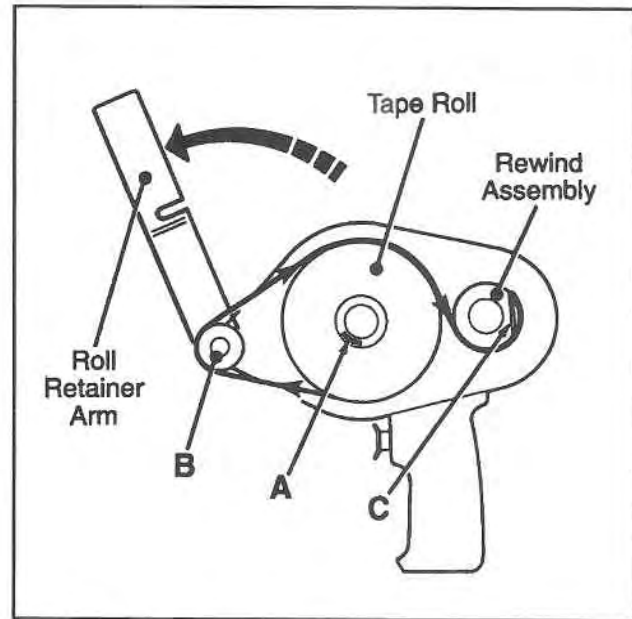

Figure 1 – Tape Threading
Open roll retainer arm and place tape roll on hub fully seating finger (A) in tape core slot so tape leader is dispensed from underneath tape roll as shown in Figure 1. Thread tape leader around applying roller (B) and back around tape roll as shown, keeping leader taut. Loop leader around rewind hub slot (C). Take up slack by rotating hub counterclockwise. Close and latch roll retainer arm.